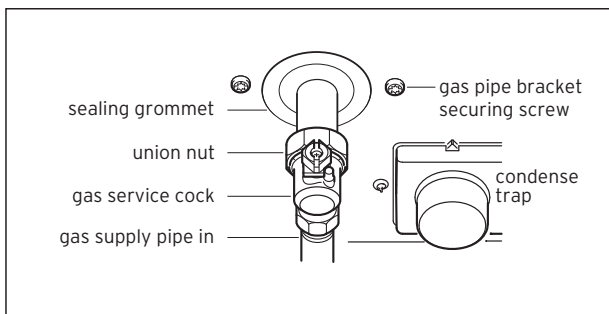

Fig. 8.5 Gas service cock
- Remove the two gas pipe bracket securing screws from underside of inner case, see fig 8.5.